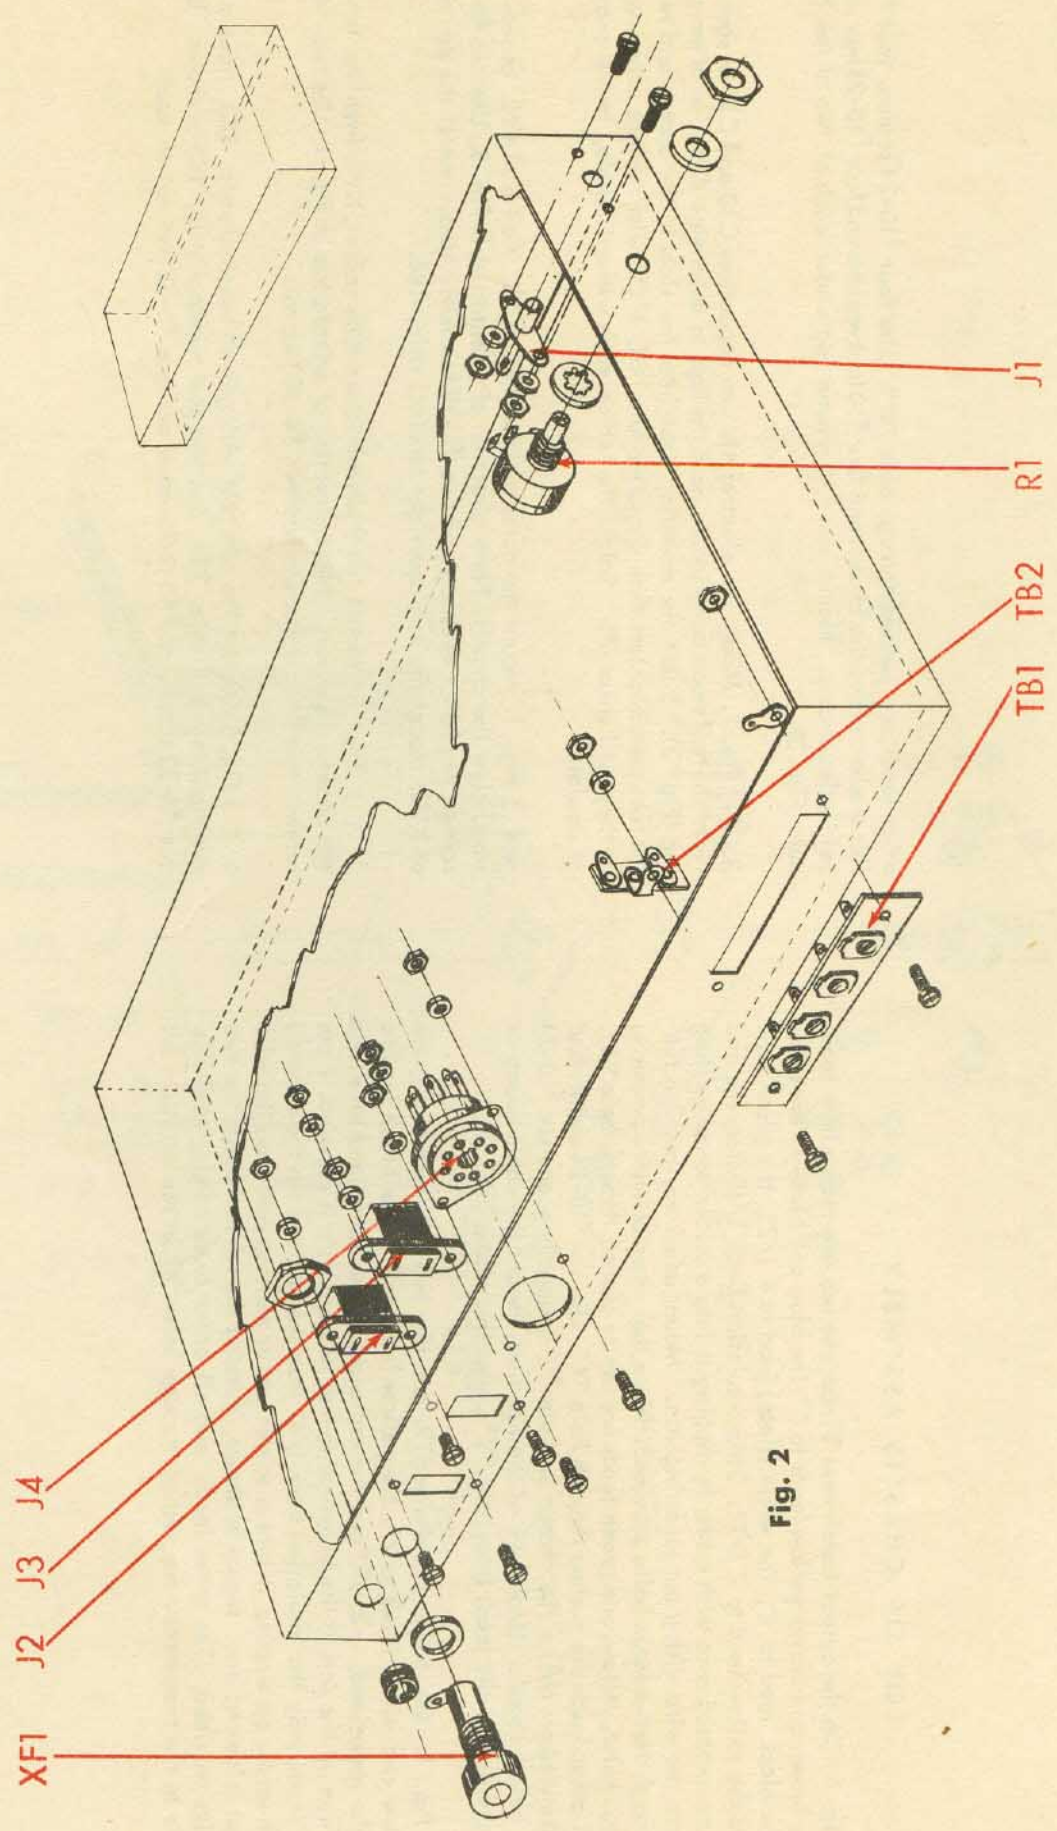

Fig. 2
Note that the view shown in figure 2 is from the top of the chassis, as if part of the top were cut away.
1. () Fig. 2. On the side of the chassis, mount level control pot, R1, as shown. Use one 3/8 lockwasher, one 3/8 flat washers and one 3/8 hex nut.
2. () Fig. 2. Mount input jack J1, as shown. (Fig. 3). Use two #6-32 screws, two #6 lockwashers and two #6-32 hex nuts.
3. () Fig. 2. Mount the four screw terminal board, TB1, from the outside of the chassis, as shown. Use two #6-32 screws and two #6-32 hex nuts. Under one of the hex nuts, mount a #6 ground lug. Under the other hex nut, mount the two post terminal strip, TB2 and a #6 lockwashers.
4. () Fig. 2. Mount the octal socket, J4, as shown. Note orientation. Use two #6-32 screws, two #6 lockwashers and two #6-32 hex nuts.
5. () Fig. 2. Mount the two convenience outlets, J2 and J3, as shown. Use two #6-32 screws, two #6 lockwashers and two #6-32 hex nuts on each.
6. () Fig. 2. Mount the fuseholder XF1, as shown. Use rubber washer outside of the chassis and the hex nut inside of the chassis. Do not tighten the hex nut too much or fuseholder will crack.
7. () Fig. 2. Mount the 3/8" rubber grommet in the remaining hole on the rear apron.